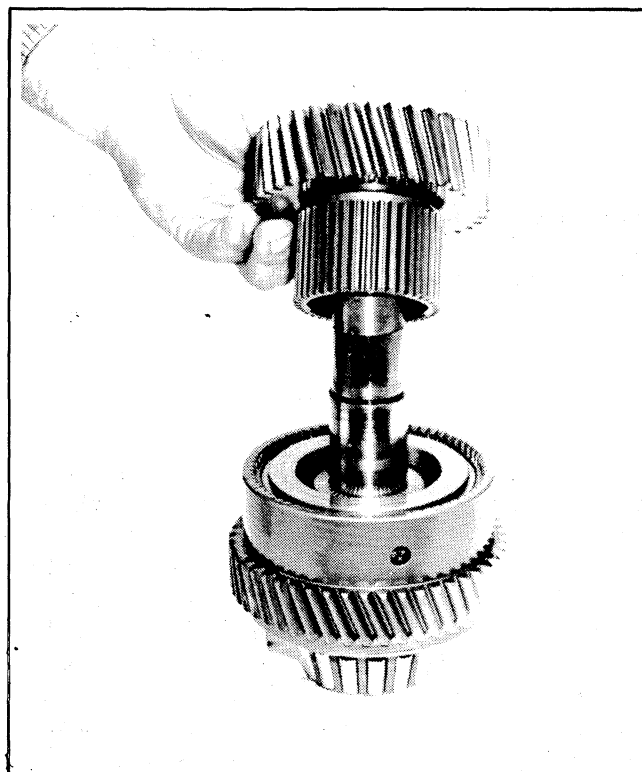

Figure 8-4. Removing or Installing the Front Thrust Bearing, Spacer and Washer from the Reverse Clutch Shaft.
6. Remove steel thrust washers (Figure 12-3, 12 and 14) and needle thrust bearing (13). See Figure 8-4.
8. Install thrust washer (Figure 12-3, 12), needle thrust bearing (13), and thrust washer (14) in that order. See Figure 8-4.